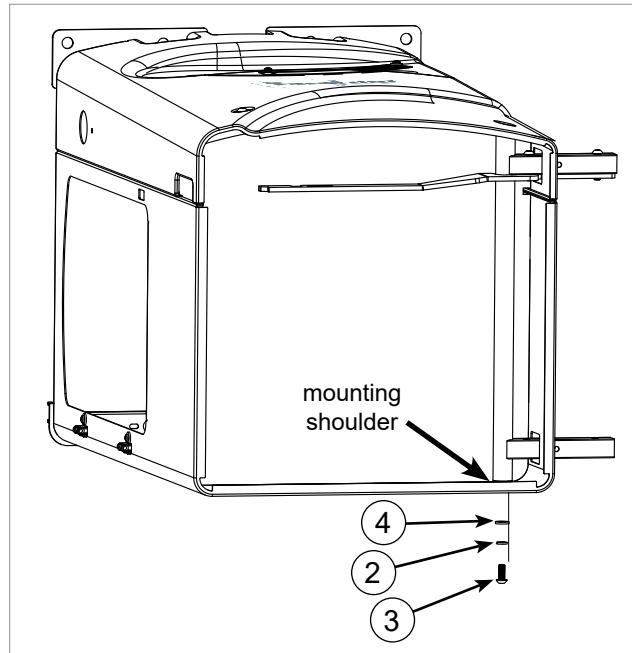

Fig. 5
5. The end of the caster support next to the back of the saw is the end with the mounting shoulder. Insert the mounting shoulder through the mounting hole in the rear of the cabinet and secure that end of the caster support to the cabinet with one M8 x 20 button head socket bolt, one M8 x 13.6 lock washer, and one M8 x 18 washer (see Fig. 5). Fully tighten the bolt using a 5 mm hex key.